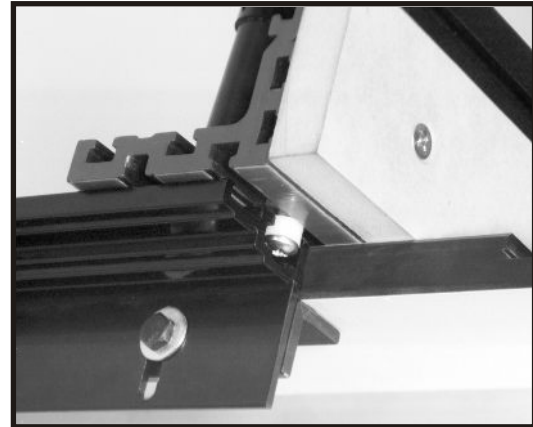

FIG. 12
13. Slide the fence with the nylon spacer attached into the T-slot on the left fence track (Fig. 12). The nylon spacer should be slightly loose to allow for some movement.